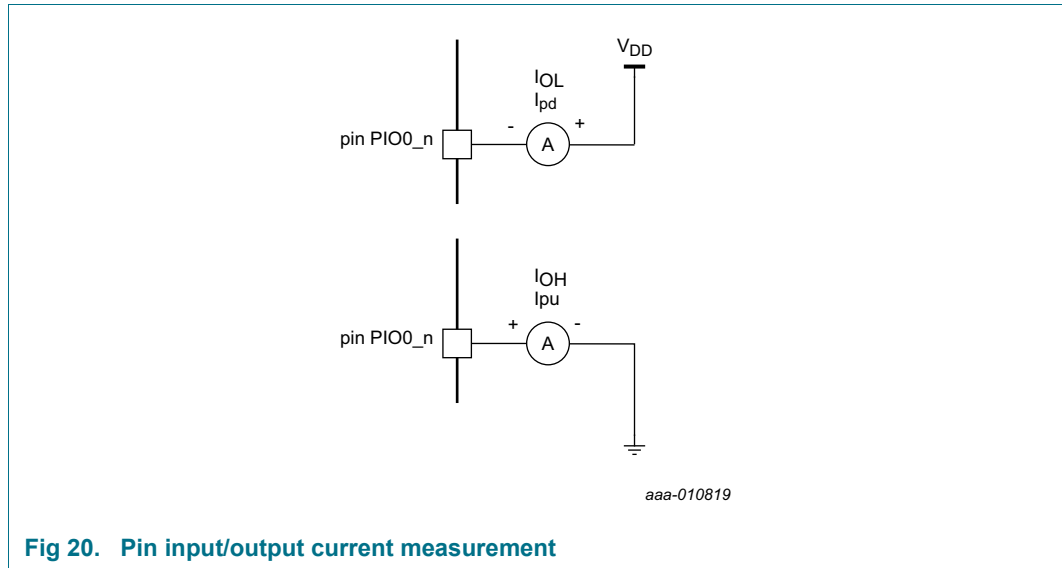

Fig 20. Pin input/output current measurement
- [4] Pull-up and pull-down currents are measured across the weak internal pull-up/pull-down resistors. See Figure 20.